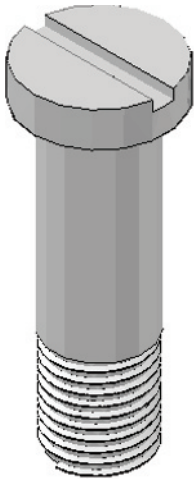

Fig. 15.36 First example **Helix**
First example – Helix (Fig. 15.36)
- The result is shown in Fig. 15.36.